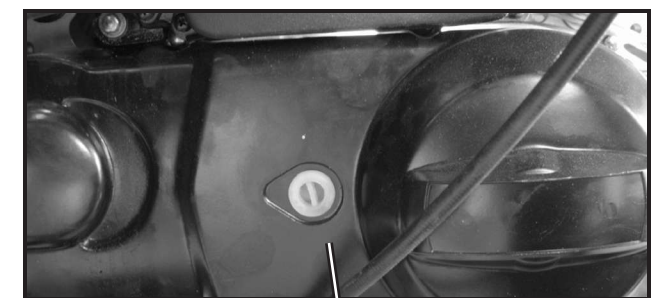

Figure 15B Transmission Fill Plug
4. Remove fill plug located on left rear of engine case. (Figure 15B)